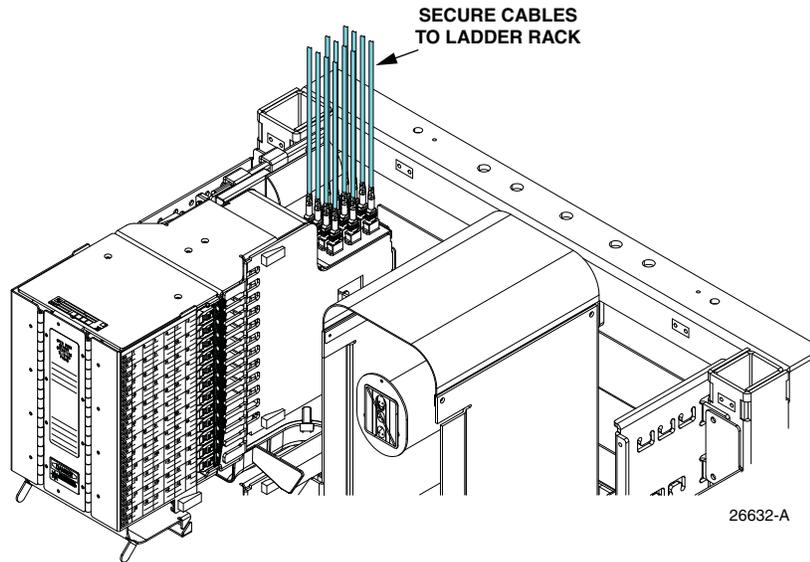

Figure 10. Top Entry MPO Cable, Top FTB
- **Note:** For the top FTB in a top entry application, secure the cable to the ladder rack overhead, as indicated in Figure 10.
► **Note:** For the top FTB in a top entry application, secure the cable to the ladder rack overhead, as shown in Figure 10 on Page 10.